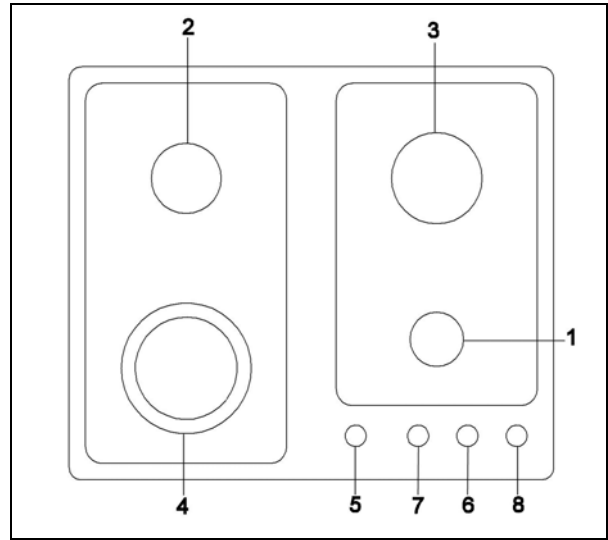

Fig.12
- TABLE DE CUISSON AU GAZ MODELE **P680**, cfr. FIG.12 - Schéma Electrique A